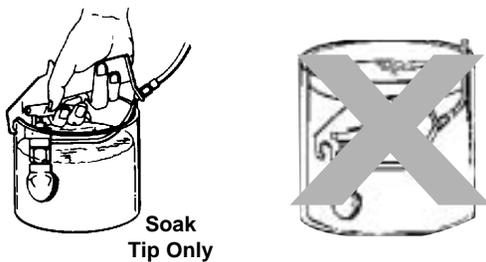

Figure 26. Cleaning Fluid Tip
1. Relieve all fluid pressure in the system, and soak only the tip of the gun in a compatible solvent, or remove the entire fluid tip and soak it in solvent. (see figure 26)